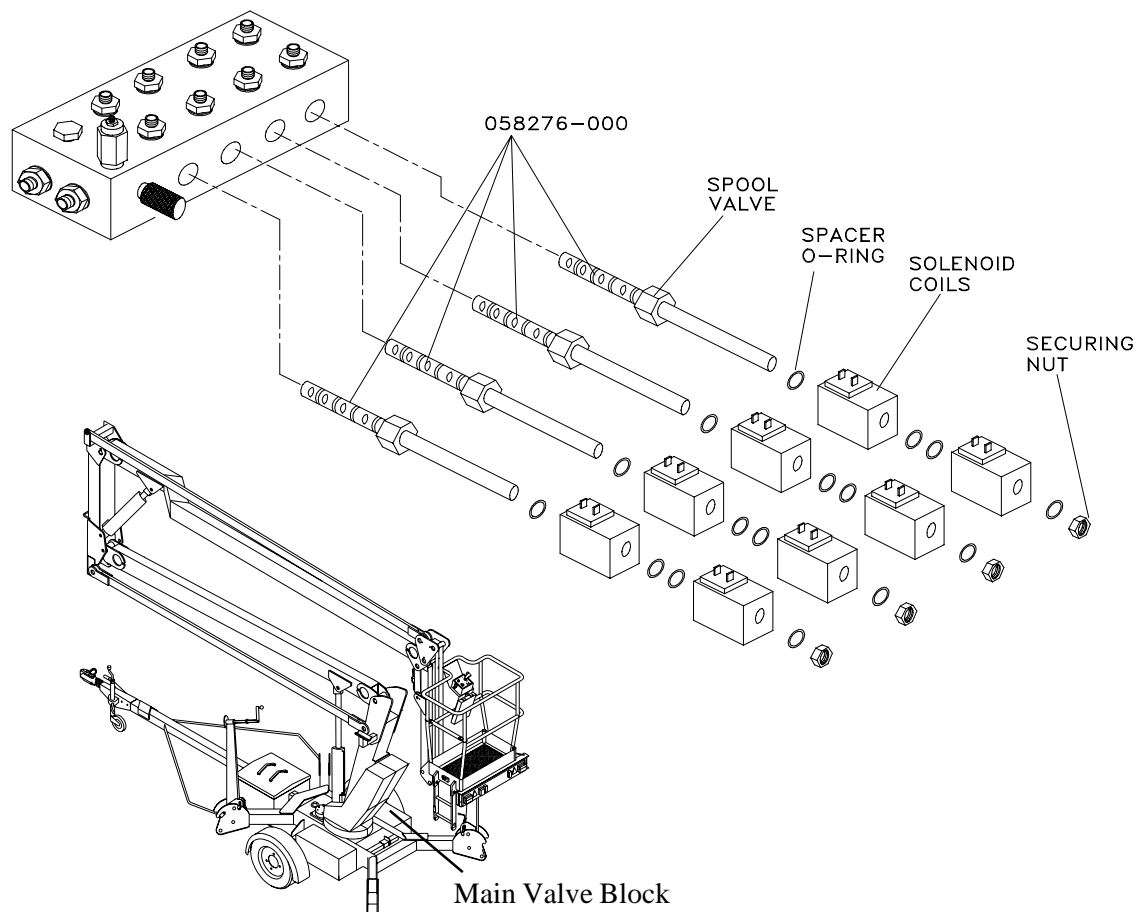

Figure 1
PROCEDURE: Read all instructions thoroughly and refer to Figure 1 on the following page before starting.
3. Remove the Chassis Cover and gain access to the Main Hydraulic Manifold (see Figure 1).